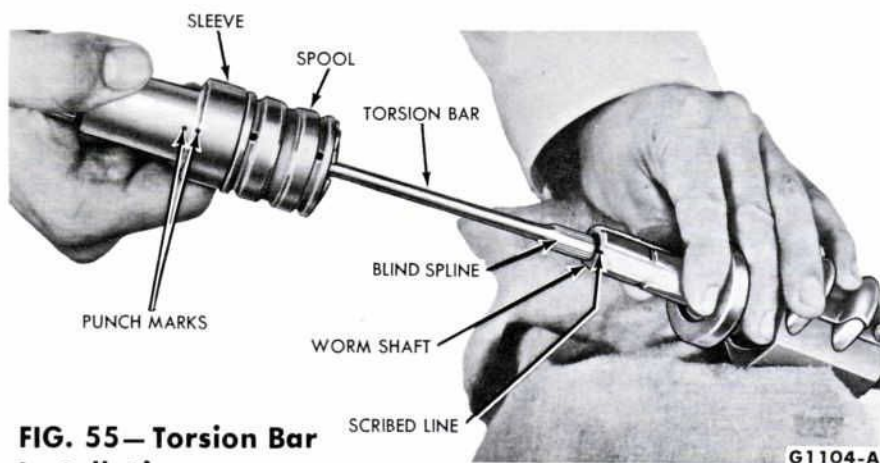

FIG. 55—Torsion Bar Installation
13. Slide the torsion bar spring and the actuator on the torsion bar. Turn the lower end of the shaft so that the two identifying punch marks are aligned (Fig. 55). Hold the assembly together and insert the torsion bar into the worm shaft, aligning the blind spline on the torsion bar with the scribed line on the end of the worm shaft. The torsion bar assembly is properly installed when the valve spool bottoms against